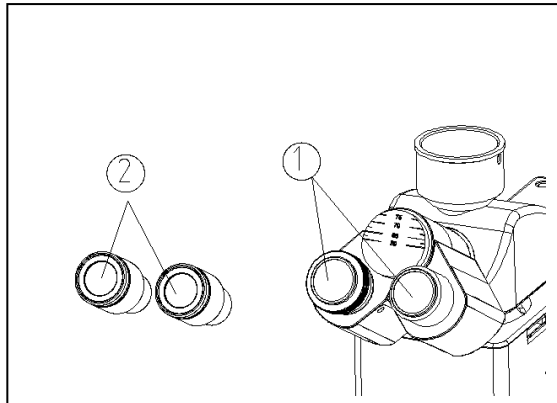

Fig. 5
1. Remove the eyepiece tube cover ①.
2. Insert the eyepiece into the eyepiece tube until it stops ② (see Fig. 5)